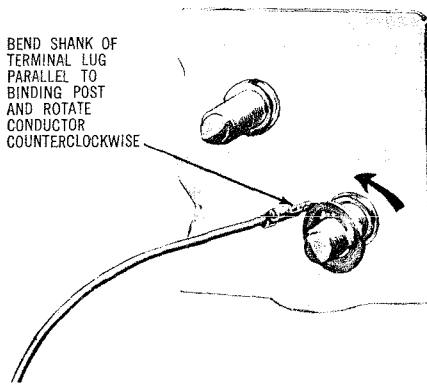

Fig. 7 — Removing Binding Post Leads
4.03 If replacement of wire leads become necessary, remove the old lead as illustrated in Fig. 7.